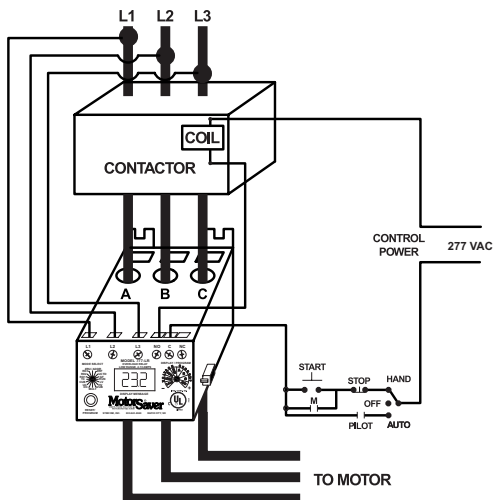

FIGURE 1: Typical Wiring Diagram
2. Insert the motor conductors through the round holes marked "A", "B", and "C." Terminate the conductors at the line or load side of the magnetic contactor. **Note: For motors with full load amps less than 2.0 Amps**, loop the conductors through the holes marked "A", "B", and "C" according to Table 1 below. The rectangular holes behind the holes marked "A", "B" and "C" are provided for wire looping (see Figure 1).
3. Connect the three-phase power from the line side of the contactor to "L1", "L2" and "L3". First insert a #14 - #18 AWG wire into the top of the terminal marked L1 and tighten the screw on the front of the overload relay. Then, connect the other end of the wire to the line side of the contactor. Repeat these two steps for L2 and L3 (see Figure 1).
4. Connect the output relay to the circuitry to be controlled (see Figure 1). To control a motor, connect the normally open contact in series with the magnetic coil of the motor starter as shown. To sound an alarm, connect the normally closed contact in series with the alarm (not shown).